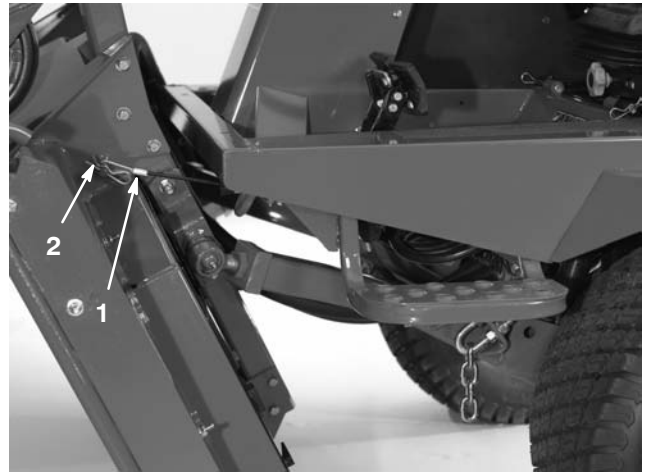

Figure 81
6. Hold the cutting unit upright, fit the cable end over the pin on the cutting unit lift arm and secure it with the hairpin cotter (Fig. 81).